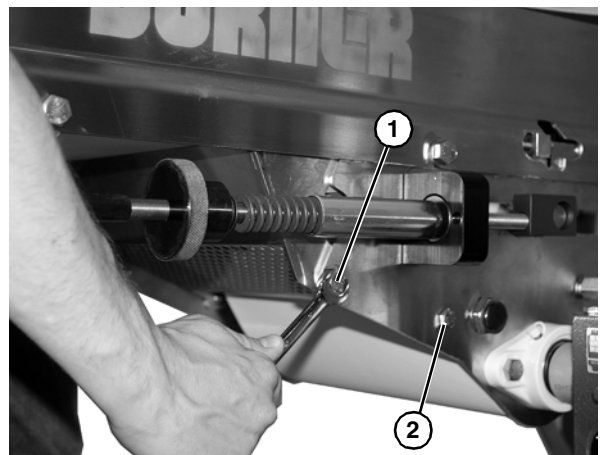

Figure 83
- Rotate tensioning nut (Figure 83, item 1) on each side of center drive unit counterclockwise to remove all tension on belt
- Remove screw (Figure 83, item 1) from each side of center drive from tension guard assembly.
- Loosen screw (Figure 83, item 2) from each side.